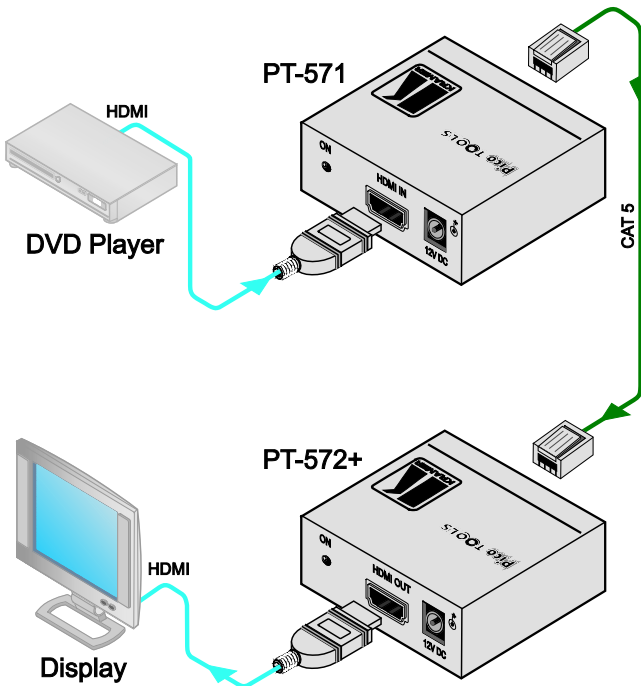

Figure 3: Connecting the PT-571 / PT-572+ HDMI Line Transmitter/Receiver
To connect the **PT-571** to the **PT-572+**, as illustrated in the example in Figure 3, do the following:
4. Connect the 12V DC power adapter to the power socket on the **PT-571** or the **PT-572+** and connect the adapter to the mains electricity (not shown in Figure 3).